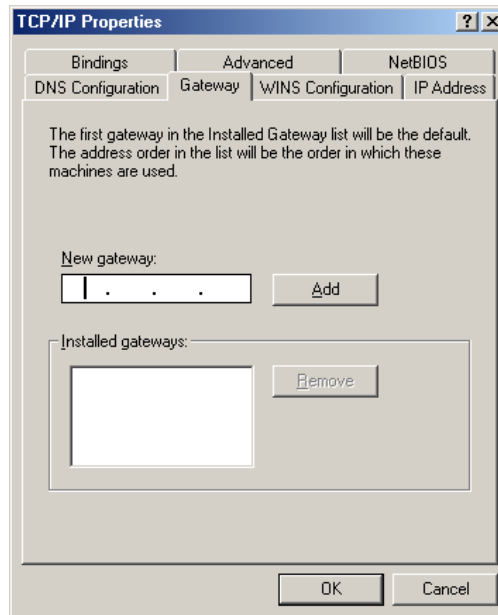

Figure 94: Gateway tab
5. Select the Gateway tab. Remove any installed gateways by selecting them and selecting **Remove**. See Figure 94.